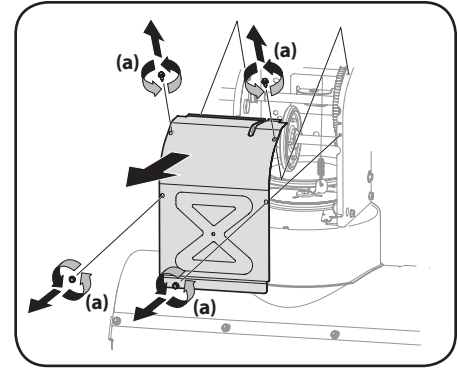

Figure 4-4
3. Remove frame cover from underside of unit by removing self-tapping screws (a) which secure it. Refer to Figure 4-4.
5. Remove frame cover from underside of unit by removing self-tapping screws which secure it. See Figure 4-4.